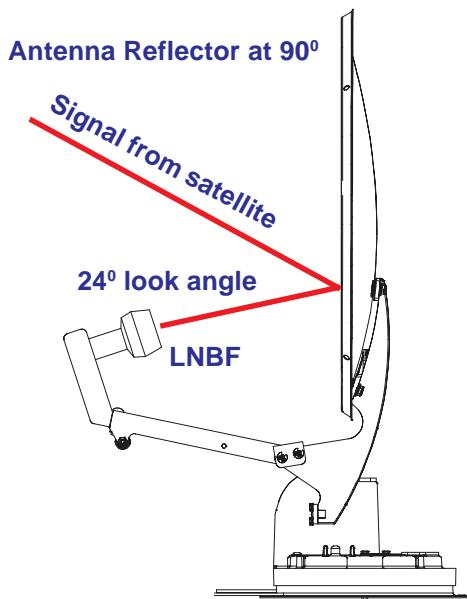

FIGURE 2
1. Be sure you have a clear line of sight. The signal from the satellite(s) **WILL NOT** pass through trees, buildings, mountains etc. Remember the antenna has a 24° offset, this means that when the antenna is straight up and down, (90°) it is looking 24° into the sky. See Figure 2.